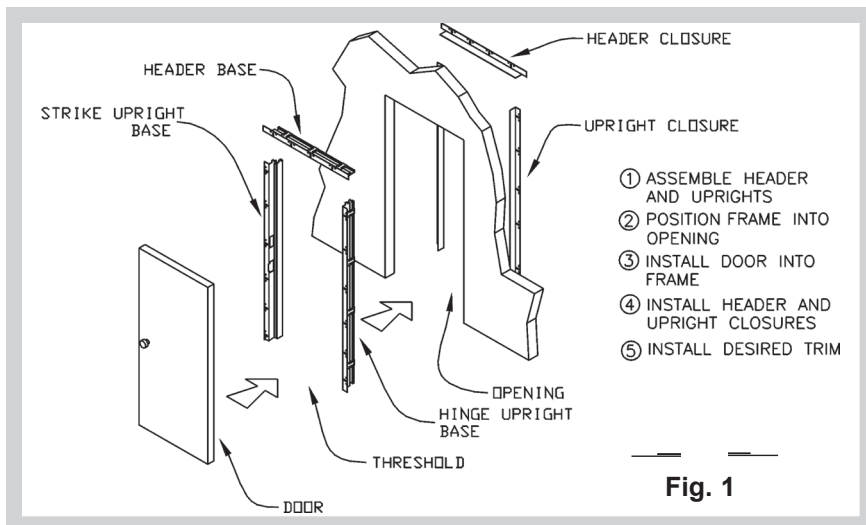
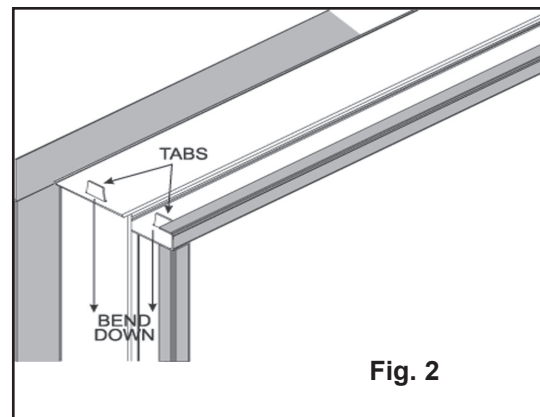

Fig. 1
Fig. 2
- 2 Assemble base side of frame** (which consists of hinge jamb, strike jamb, and header) by placing the face or nailing flange face down on a flat surface. (Fig. 1). Insert tabs which are located on the ends of the jambs into the slots in the header. Bend tabs outward and down to secure tight fit between the jambs and header (Fig. 2). Stand frame upright and place into rough opening. **Note:** If using threshold, install prior to placement into rough opening.